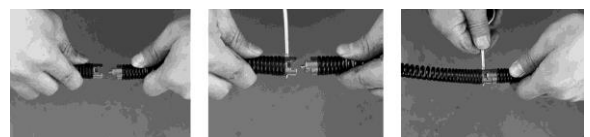

Figure 3 – Coupling and Uncoupling Tools
6. Select and install the proper tool to the end of the cable. The T-Slot Coupler allows the tool to be snapped into the cable coupler (Figure 3). To remove tool, use the pin key to depress the plunger and slide the coupling apart.